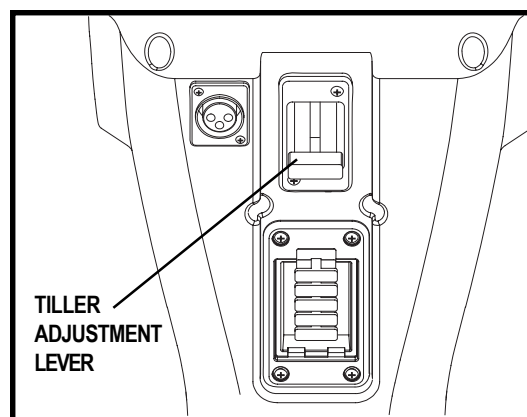

Figure 9. Tiller Adjustment
1. Lift the tiller adjustment lever. See figure 9.